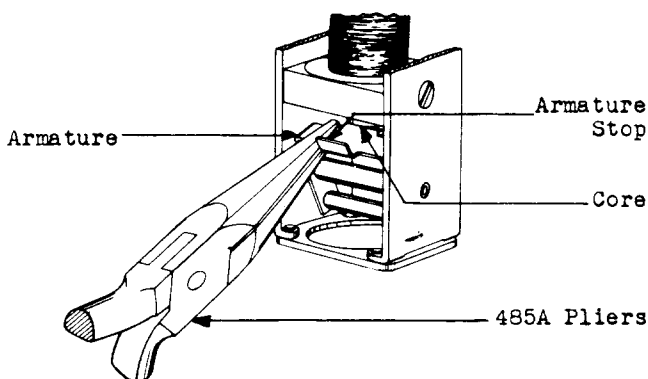

Fig. 9 — Adjusting Armature
(1) If the armature touches the face of the core, remove the relay from its mounting as covered in 3.002. Then adjust the armature slightly away from the core with the 485A pliers applied to each side of the offset portion as shown in Fig. 9. An increase in the separation between the armature and the core will have a direct effect on the electrical performance of the relay. Care must therefore be exercised in making this adjustment that the gap between the armature and core will not be so great as to prevent the armature from fully operating when the operate current is applied.